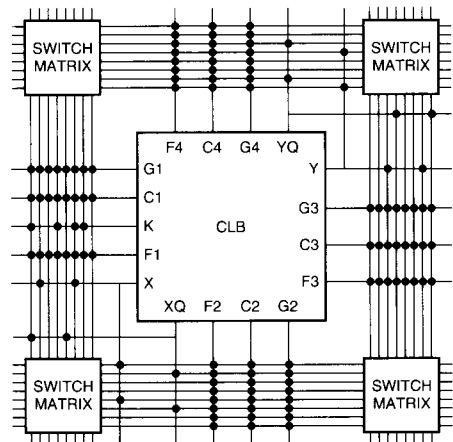

Figure 6. Typical CLB Connections to Adjacent
In previous generations of LCAs, the logic-block inputs were located on the top, left, and bottom of the block; outputs exited the block on the right, favoring left-to-right data flow through the device. For the third-generation family, the CLB inputs and outputs are distributed on all four sides of the block, providing additional routing flexibility (Figure 6). In general, the entire architecture is more symmetrical and regular than that of earlier generations, and is more suited to well-established placement and routing algorithms developed for conventional mask-programmed gate-array design.
There are three main types of interconnect, distinguished by the relative length of their segments: single-length lines, double-length lines, and Longlines. Note: The number of routing channels shown in Figures 6 and 9 are for illustration purposes only; the actual number of routing channels varies with array size. The routing scheme was designed for minimum resistance and capacitance of the average routing path, resulting in significant performance improvements.
The single-length lines are a grid of horizontal and vertical lines that intersect at a Switch Matrix between each block. Figure 6 illustrates the single-length interconnect lines surrounding one CLB in the array. Each Switch Matrix consists of programmable n-channel pass transistors used to establish connections between the single-length lines (Figure 7). For example, a signal entering on the right side of the Switch Matrix can be routed to a single-length line on the top, left, or bottom sides, or any combination thereof, if multiple branches are required. Single-length lines are normally used to conduct signals within a localized area and to provide the branching for nets with fanout greater than one.
The function generator and control inputs to the CLB (F1-F4, G1-G4, and C1-C4) can be driven from any adjacent single-length line segment (Figure 6). The CLB clock (K) input can be driven from one-half of the adjacent single-length lines. Each CLB output can drive several of the single-length lines, with connections to both the horizontal and vertical Longlines.